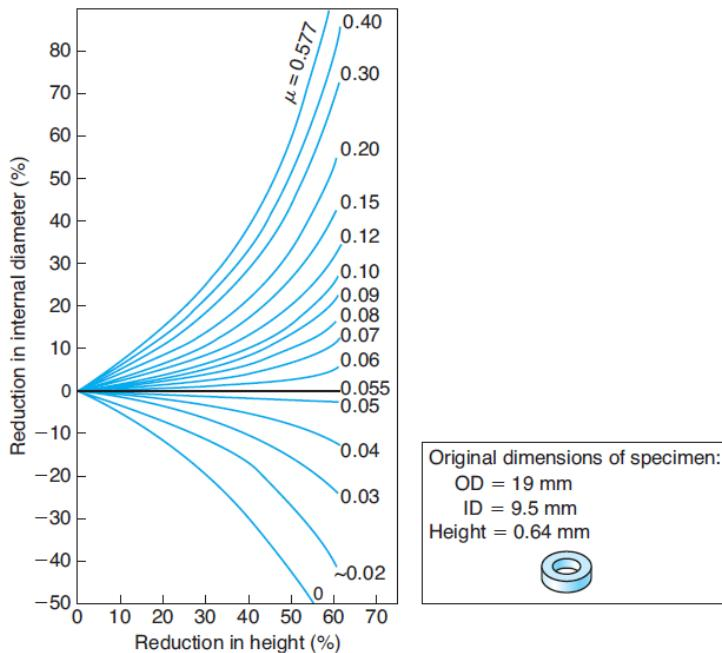

Figure Q5[b]
- [b] Figure Q5[b] shows the relationship of coefficient of friction to the reduction in height for a standard ring-compression test and the original dimensions of the specimen. Given the coefficient of friction is 0.16, calculate the new internal diameter of the specimen.